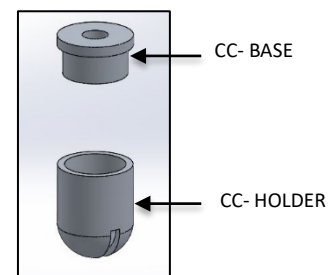

FIG. 8 - CEILING COUPLER ASSEMBLY
2. Dis-assemble the CEILING COUPLER into two components CC-BASE, CC-HOLDER as shown in FIG. 8.